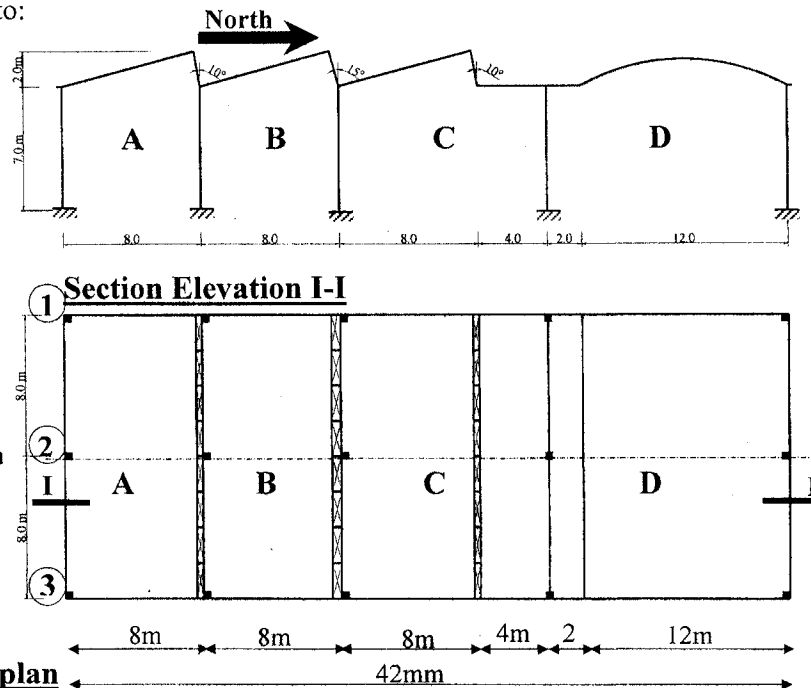

Fig. 4
B. Fig. 4 shows layout of a plan and sectional elevation of an industrial hall of dimensions 16 × 42m. The hall consists of three panels A, B, C and D. A north light roof slab is required for panels A, B and C, whereas the arch roof is required in panel D. Columns are only allowed on the axes 1, 2 and 3 when marked ■ in plan. It is required to: